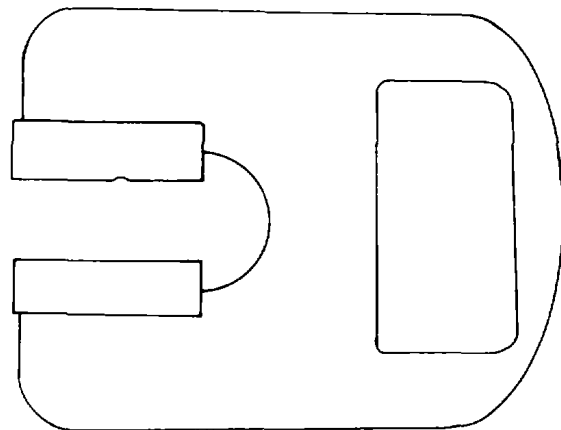

Figure 3-59. Snap Gauges
(1) Always make certain that the surfaces of the parts gauged and the gauge itself are kept free from abrasives, dirt, grit, chips, and all foreign matter.
(2) Always consider the abrasive action of the part on the gauge. Cast iron, steel, and cast aluminum are more abrasive than brass, bronze, and nonmetals such as plastics. Use particular care when gauging cast iron, steel, and cast aluminum.
(3) When gauges are stored, arrange them neatly in a drawer or case so that they do not contact other tools or each other.
(4) Always hold the gauges in your hands when checking. Never clamp them in a vise.
(5) At frequent intervals, check all gauges for accuracy and wear with gauge blocks or master gauges.
**3-16. Snap Gauges.** Snap gauges, shown in figure 3-59, are used as standards to determine whether or not one or more dimensions of a manufactured post are within specified limits.